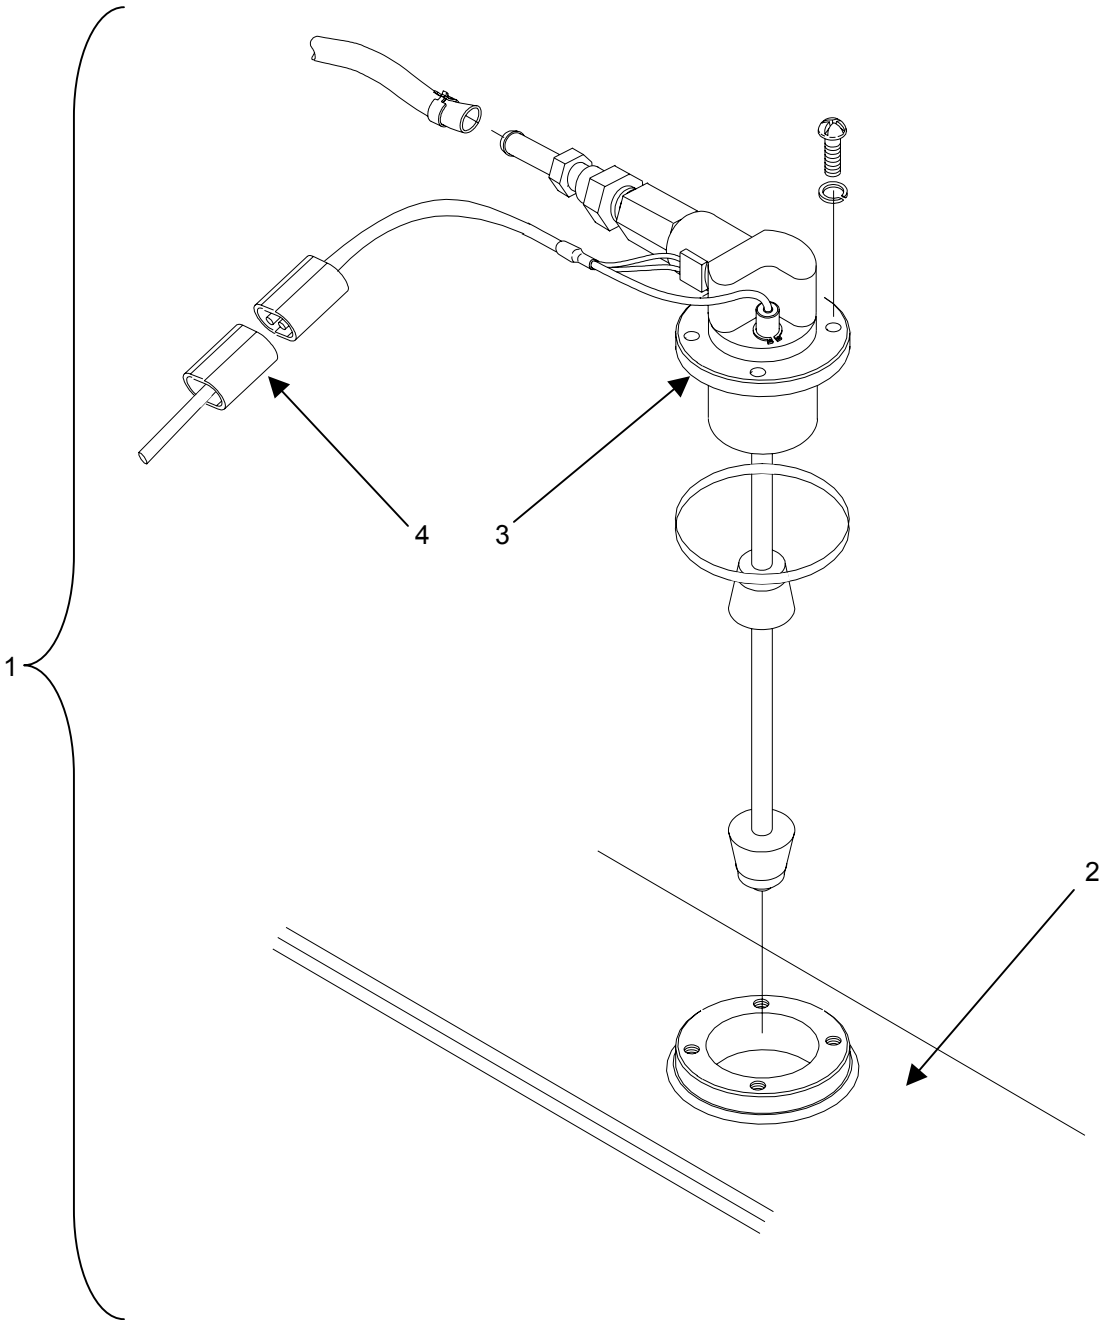

Figure 1. Inspect the Vent Valve Assembly
Inspect the vent valve assembly (**figure 1, item 1**) for proper seating on the fuel tank (**figure 1, item 2**). Check for damage to the valve head (**figure 1, item 3**), and solenoid. Check for loose power leads (**figure 1, item 4**) to the solenoid and float switch. Ensure vent orifice is not clogged.